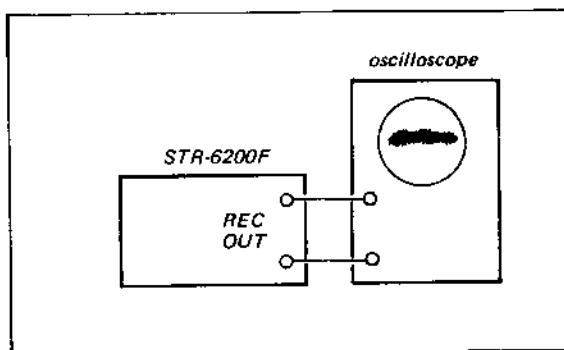

Fig. 3-5 Discriminator alignment test setup
1. With the equipment connected as shown in Fig. 3-5, set the receiver's control as follows:
- FUNCTION (2) switch FM